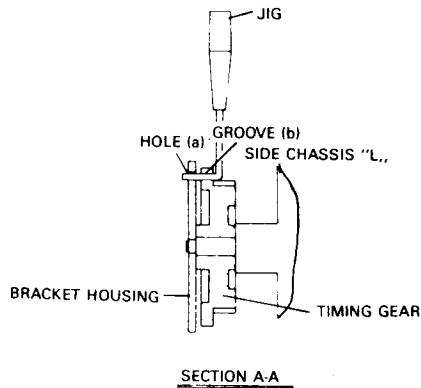

Fig. 15
a) Assembling point is the point that the hole of the gear holder plate corresponds to the groove of the timing gear as in Fig 15.